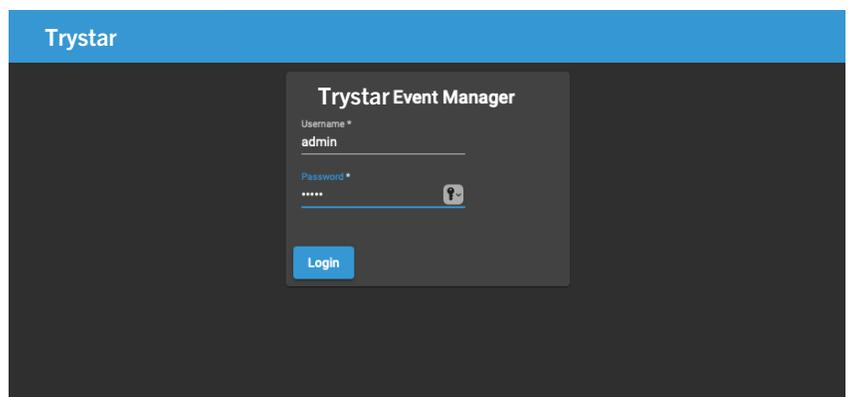

Figure 7. Login Screen
6. Enter the default user name (admin) and password (admin) and click the 'Login' button to access the Event Manager. (Figure 7)